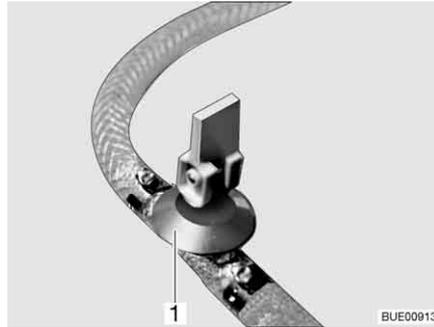
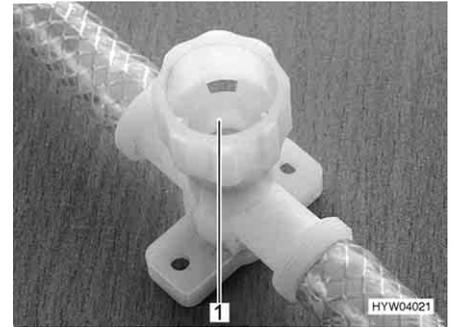

Fig. 207 Drain cock (with rocking lever)
Fig. 208 Drain cock (with twist cap)
- Close all drain cocks. To do this, position the drain cock's rocking lever (Fig. 207, 1) horizontally or turn the drain cock's cap (Fig. 208, 1) in a clockwise direction.